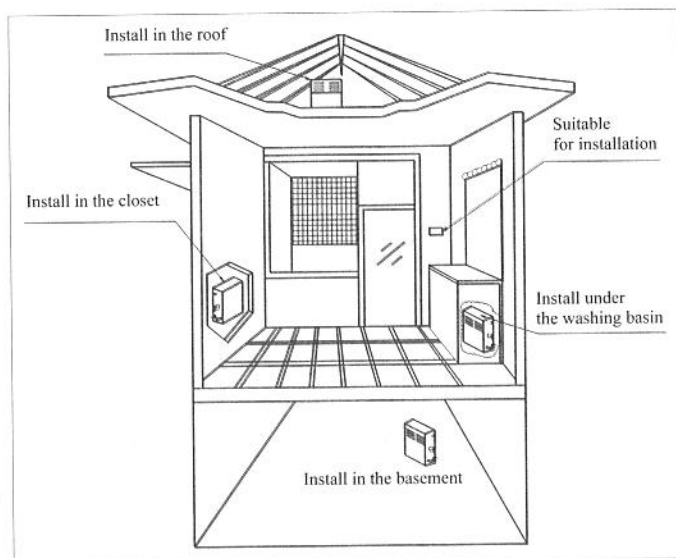

Figure 8
- The generator should be installed in a dry and well-ventilated place. It can be installed either on the wall or on the ground, but must be well fixed. Install the generator as close to steam room as possible, such as in the closet, under the washing basin or in the basement. (Refer to figure 8).